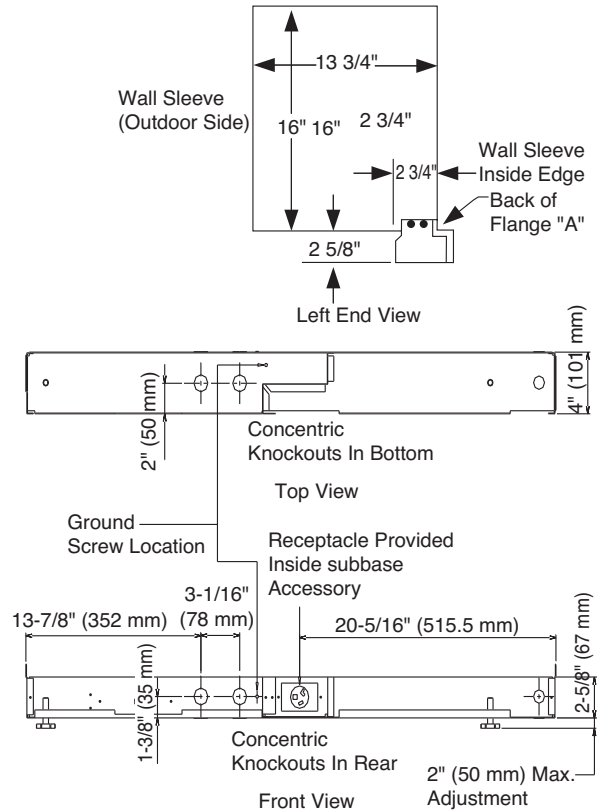

Figure 59 - Wiring Diagram
7. Wire subbase for appropriate voltage (Figure 59).